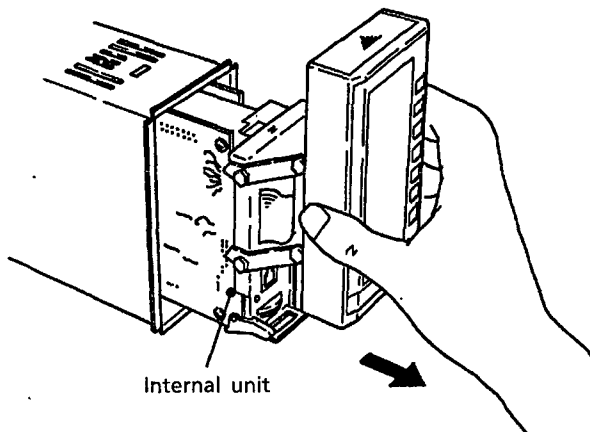

Figure 3.8 Removing the Internal Unit 2
- ③ Hold the left and right sides of the front panel, and pull out the internal unit to the front (see Figure 3.8).